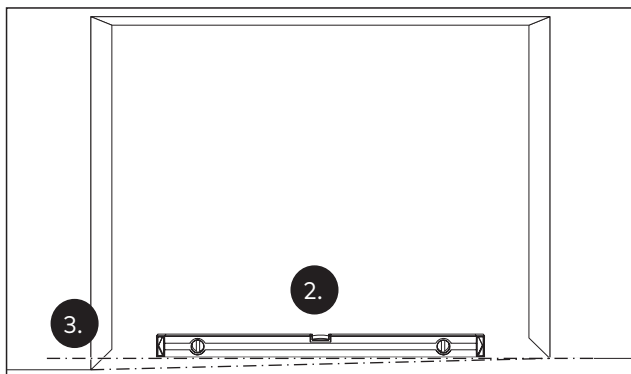

Fig. 7 Determining the highest point in the area of movement
2. Determine the highest point of the floor in the area of movement of the leaves using a leveling device (Fig. 7).
3. Transfer the highest point of the floor to the wall (Fig. 7).